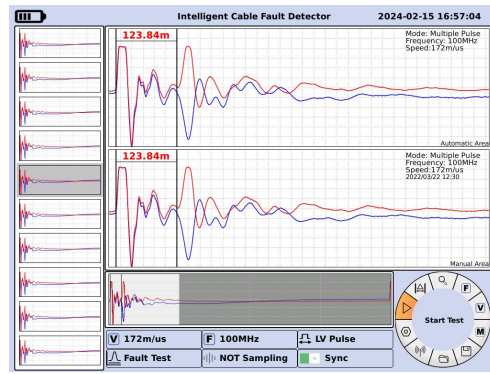

Figure 4.3 Main Menu After Successful Parameter Setting
Press the ⑥ "Power Switch" as shown in Figure 3.1 (reference missing), and rotate the ⑪ "Optoelectronic Rotary" to move the focus to the center, where "Fault Test Settings" is displayed. Press the ⑪ "Optoelectronic Rotary" button to enter the fault testing settings interface, select "TDR", choose the desired sampling frequency and medium, rotate the ⑪ "Optoelectronic Rotary" to move the focus to the "OK" button, and press it to save the settings. The main menu interface will now appear as shown in Figure 4.3. Move the focus with the ⑪ "Optoelectronic Rotary", and press the button to start the test and wait.